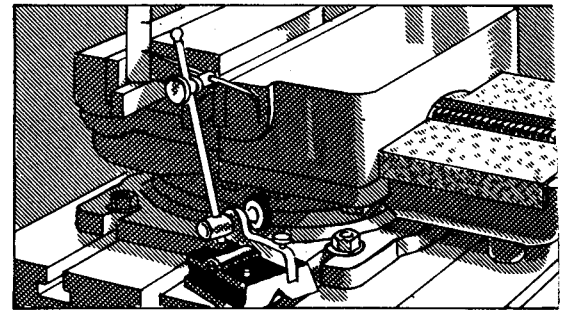

FIG. 301
3. Hold a scale in a vertical position with one end on a parallel which supports the work, or on the bottom of the vise if the work has been set thereon (Fig. 301).